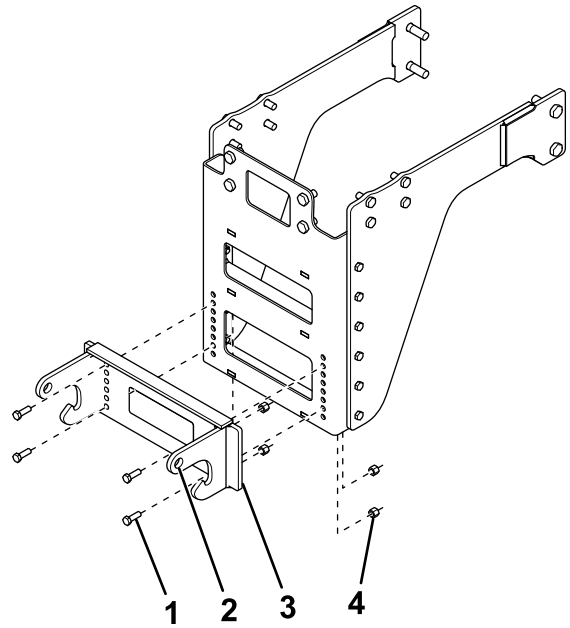

Figure 3
8. Secure the pushbeam to the front plate using 4 bolts (1/2 inch) and nuts (Figure 3).